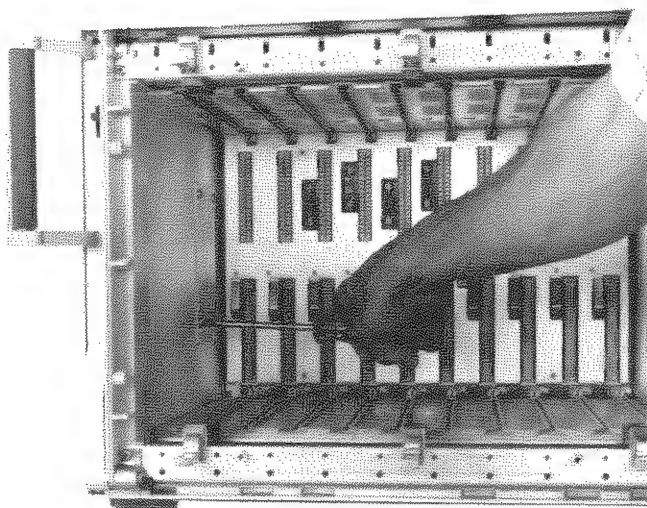

Figure 24. Removing Card Cage Side Access Cover.
4. Remove the card cage access cover (Figure 24).